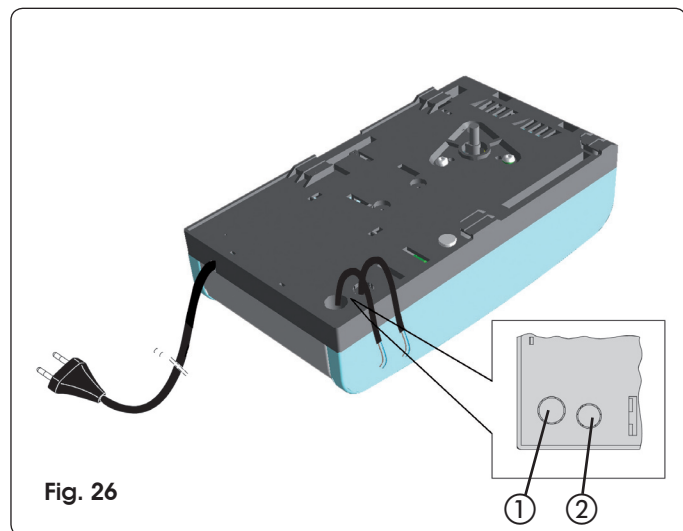

Fig. 26
- To connect the external controls, safety devices and signals, break open the pre-holed element (Fig. 26 ref. ①).
- To connect the safety edge (see par. 18.3), break open the pre-holed element (Fig. 26 ref. ②).